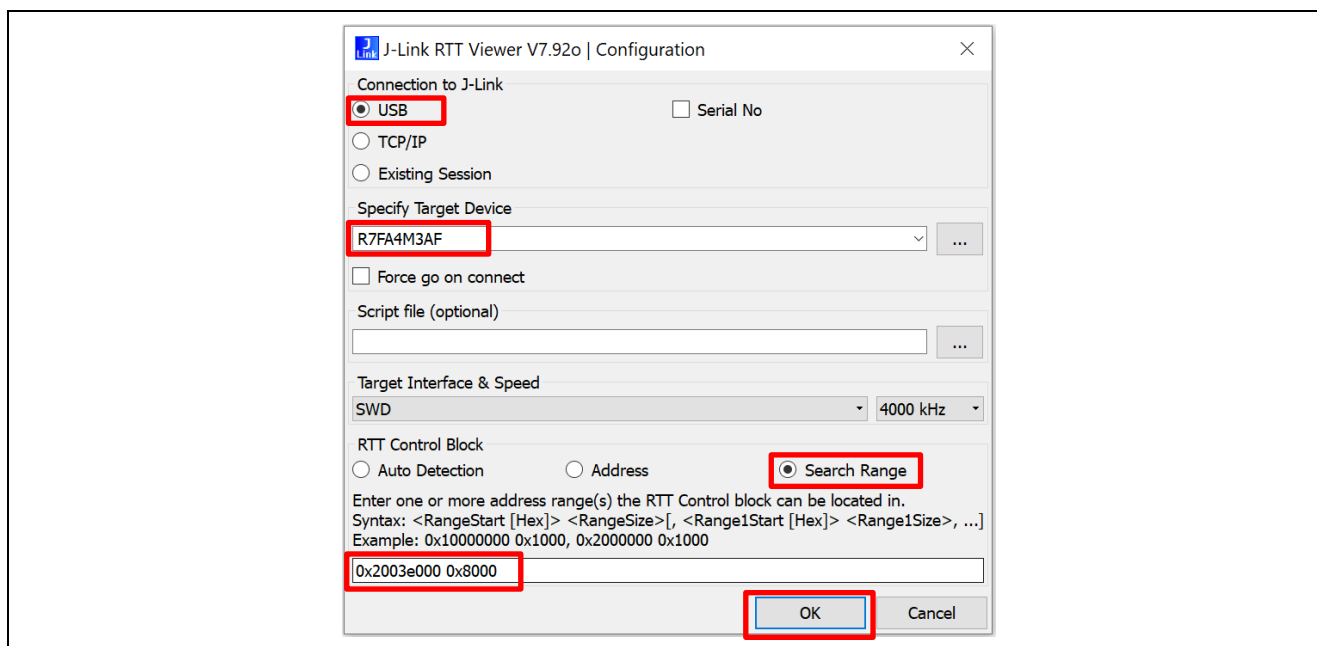

Figure 17. Configure the RTT Viewer
6. Open the J-Link RTT Viewer and set up the same configuration as Figure 17.
6. Open the J-Link RTT Viewer and set up configuration similar as Figure 17 except change the search range to 0x20000000 0x8000.
4. Confirm the same configuration as shown in Figure 17, then click **OK**.